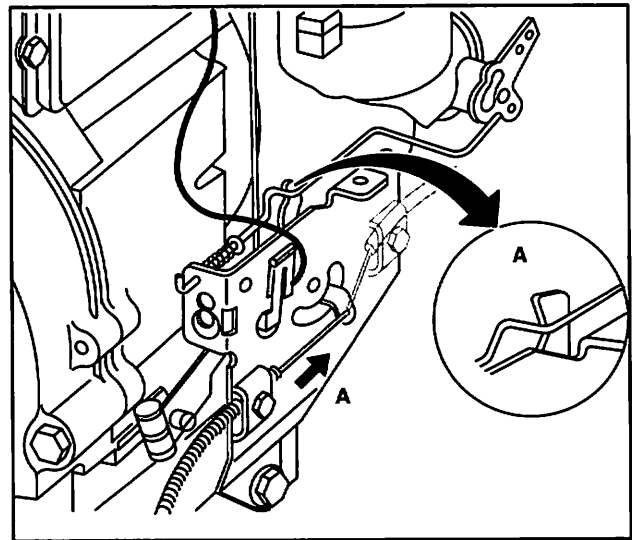

Fig. 69
Adjust Choke-A-Matic® linkage and cable as shown (A), to increase speed, Fig. 69.